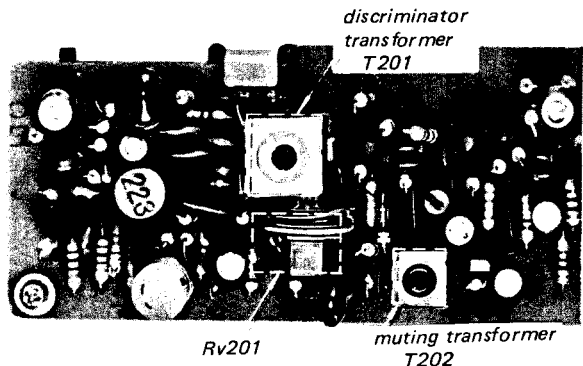

Fig. 3-4 Parts location
3. Turn the top core (secondary side) of discriminator transformer T201 (see Fig. 3-4) with a hex-head alignment tool to obtain a null-point reading on the tuning meter.
2. Turn the knob of Rv201 (see Fig. 3-4) fully clockwise on the fm i-f and discriminator board.